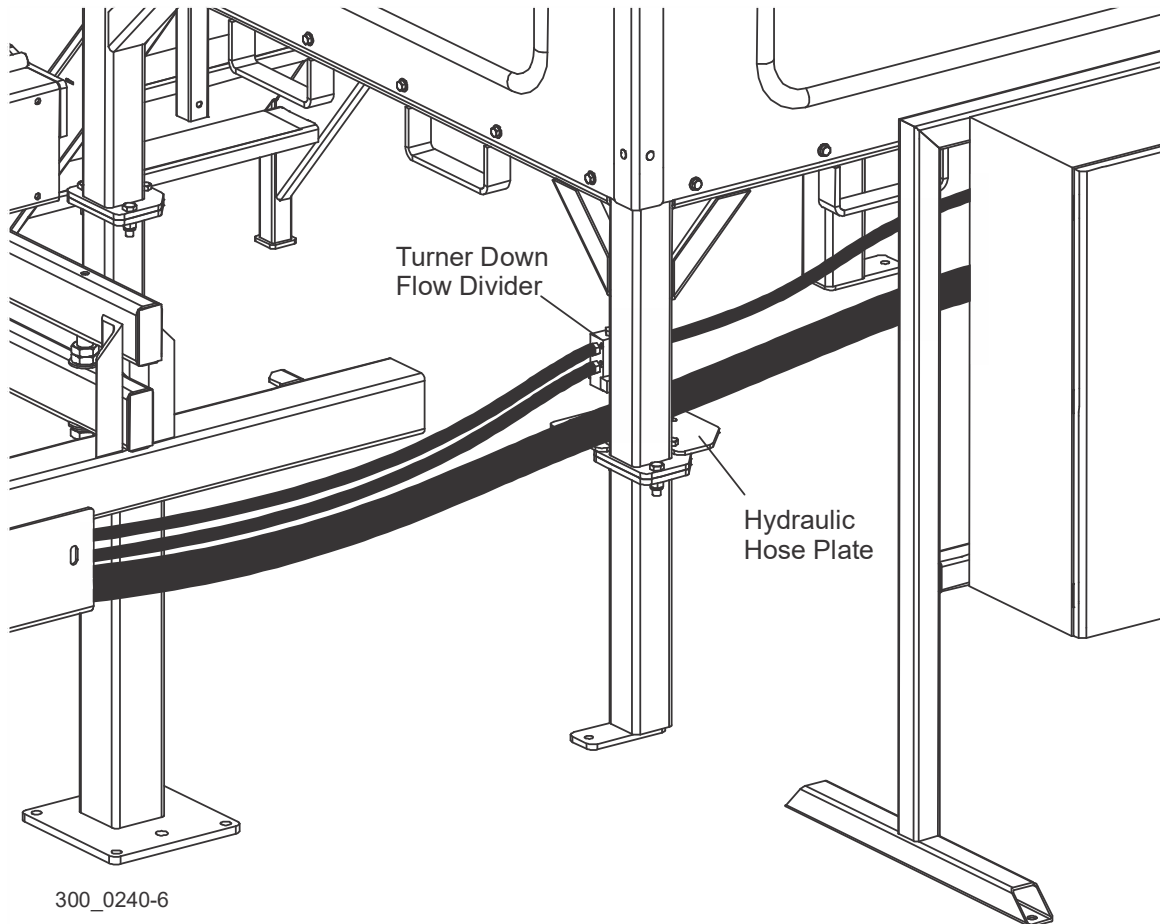

FIG. 3-25
6. Remove the plugs from the turner down flow divider located on to the operator station leg. See Fig. 3-25.
8. Connect the hoses to the fittings on the turner down flow divider. See Fig. 3-25.